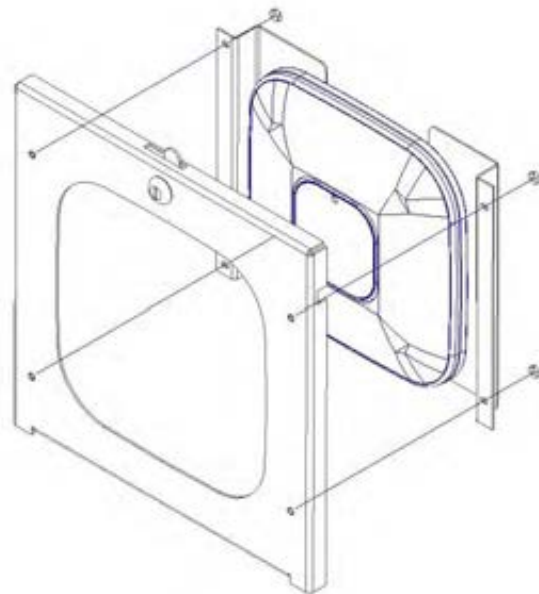

Figure 2
Step 2 – The door assembly is completed by attaching the previously assembled mounting plate/access point assembly to the enclosure door by securing it in place with four (4) #8-32 hex nuts. Place the slotted holes in the mounting plate/access point assembly over the studs located on the bottom side of the door (NOTE: the mounting plate can only be attached to the door in one direction. If the slotted holes don't match up with the studs in the door, rotate the mounting plate 180°). Once the mounting plate is positioned, secure it in place by installing four (4) #8-32 hex nuts (Figure 2).